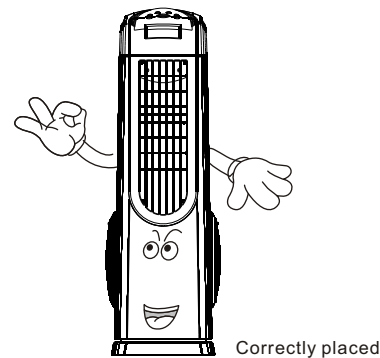

Fig.10
- The machine must be placed on a horizontal or flat surface. (Fig.10) Do not tilt or overturn the unit during operation.